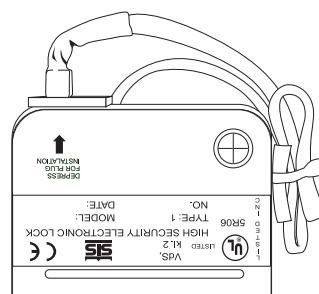

Figure 6
3. Secure any cables with wire tie, making sure to keep out of the way of all moving parts. (Figure 6)
5. Connect the cable coming from the Entry Device directly into the connector port marked ENT on the lock. (Figure 6)